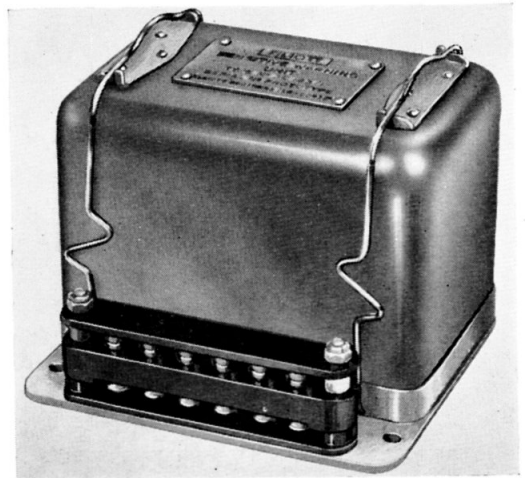
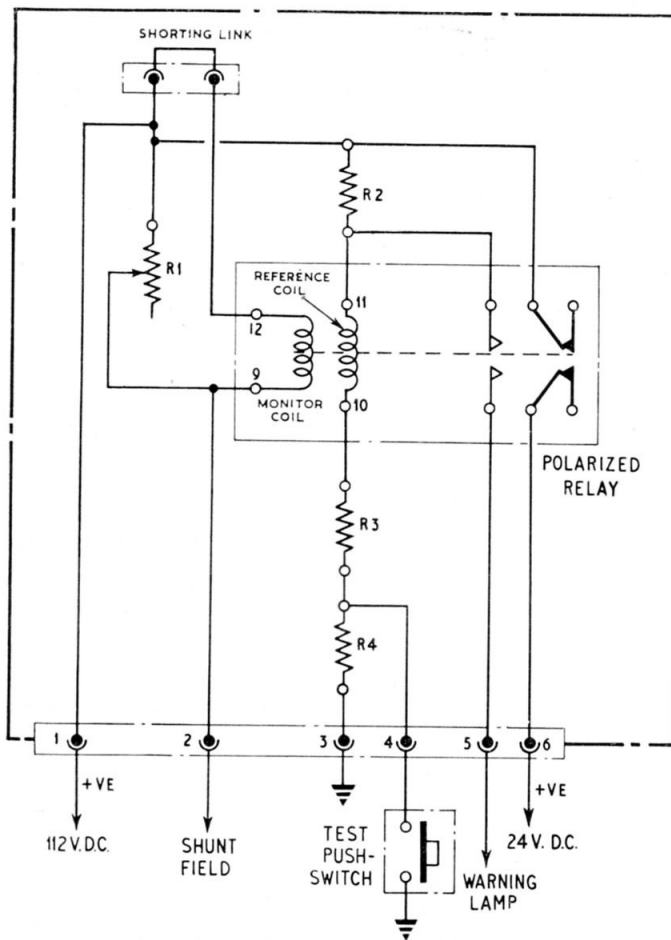

Fig. 1. Sensitive warning unit, Type 3C/183
Fig. 2. Circuit diagram
2. This unit (*fig. 1*) incorporates a polarized relay, which is energized by the differential voltage from two coils. One of these coils, the reference coil (*fig. 2*) is connected to the main power supply, and the other, the monitor coil, is connected to the particular circuit being monitored. Under normal conditions, the two coils are in balance, and the relay remains in the de-energized position. Any change in voltage across the monitor coil, however, causes the relay to operate, and give an indication on a warning lamp or other device.
3. The value of the resistors incorporated is shown under Leading Particulars. R1 is a variable resistor, which has been set initially to the correct value. A push-switch can be connected for test purposes as shown in fig. 2, where by shorting out R4, a check can be made for correct operation of the relay and warning device.
6. No servicing is possible on this unit, apart from a general inspection for freedom from damage and security of connections. The relay and warning device may be tested for correct operation by depressing a test push-switch, connected as shown in fig. 2.